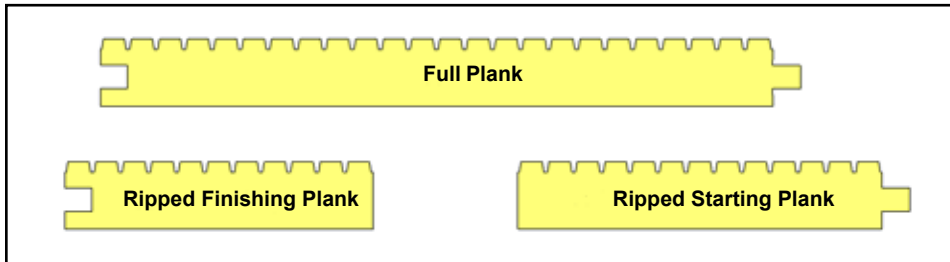

Figure 3
- Rip planks for starting and finishing planks. The starting plank should have a tongue and the finishing plank should have a groove. (Figure 3)